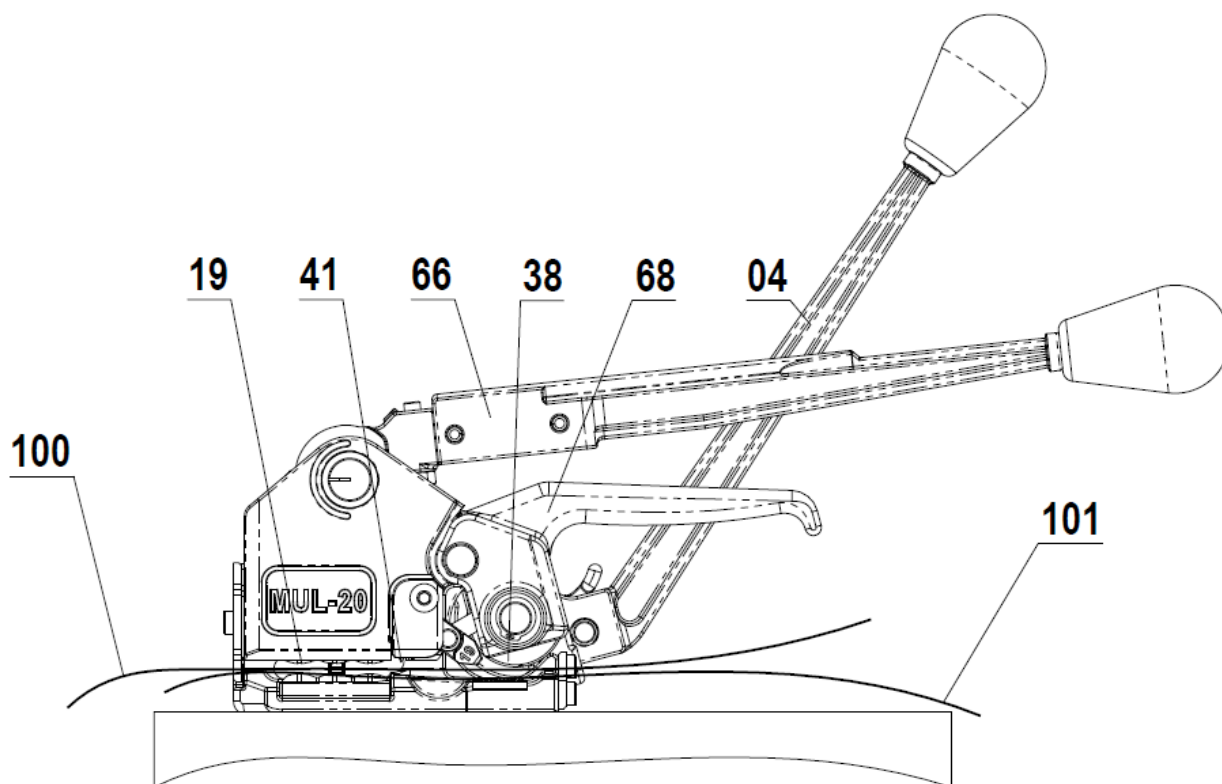

Fig. 2
1. Pull up on **Feed Wheel Support Handle 68** to raise **Feed Wheel 38**. Load both straps **100** and **101** under **Dies 19**, under **Cutter Blade 41** and under **Feed Wheel 38** and release the **Feed Wheel Support Handle 68** as shown on Fig. 2